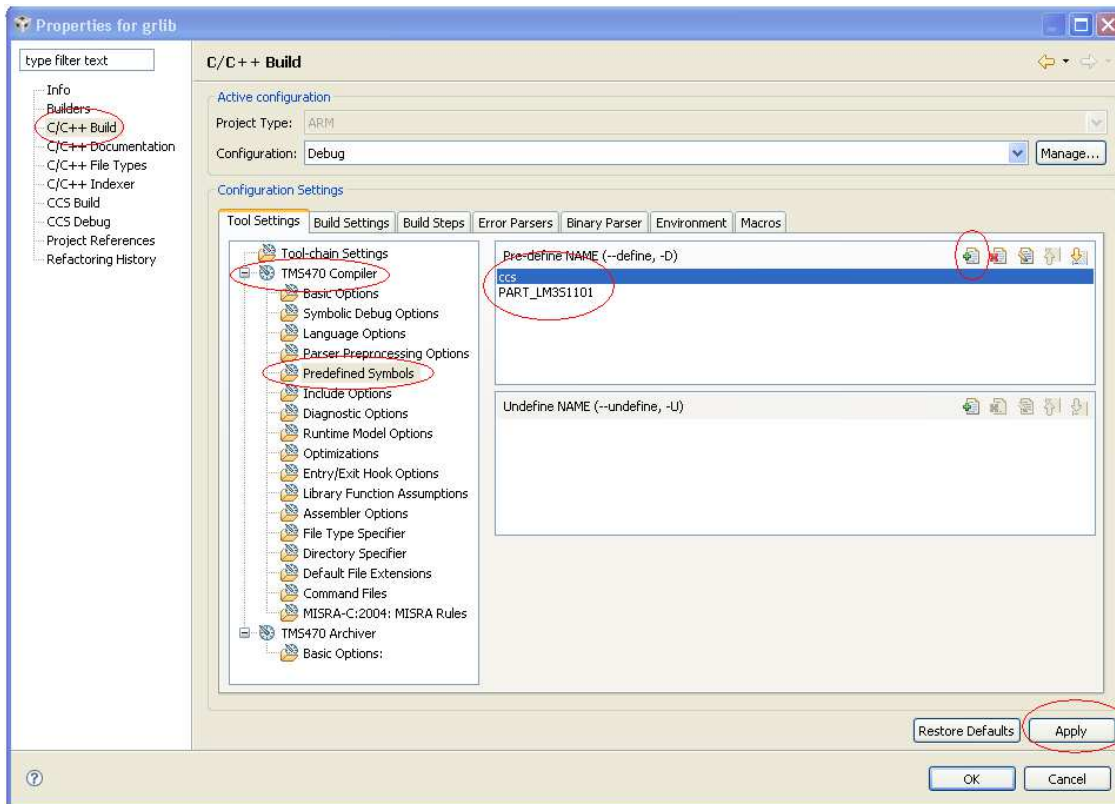

Figure 33. Properties for glib (C, C++ Build)
7. Select C/C++ Build under the Tool Settings tab → select the Runtime Model Options in the TMS470 Compiler field. Select options (on/off) as shown in red circles in Figure 33 → click on the Apply button.